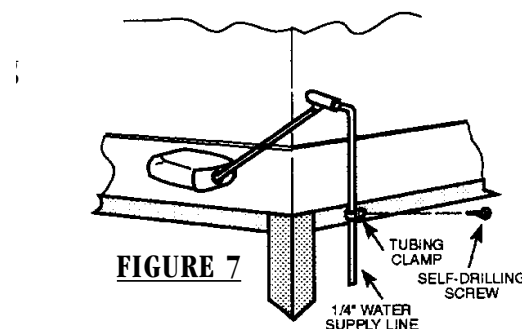

FIGURE 7
- Fasten 1/4" water supply line to cooler stand using tubing clamp and self-drilling screw. Locate tubing clamp 18" or less from water supply line entry into cooler cabinet (See Figure 7).